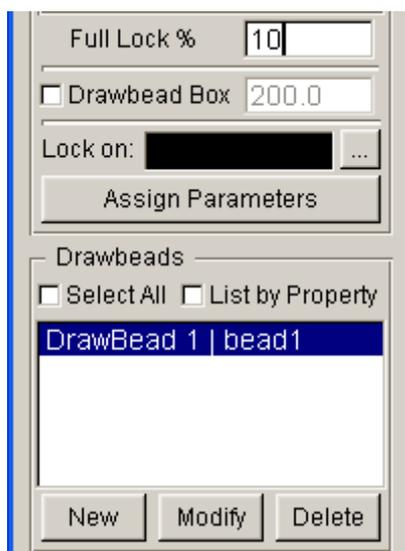

Figure 7.35 Drawbead list
20. Next, use your mouse cursor to pick **Drawbead1** from the drawbead list. Type in **10** (%) in the input data field of **Full Lock %** illustrated in Figure 7.35. Then, click **Assign Parameters** button to modify the full lock force of drawbead.